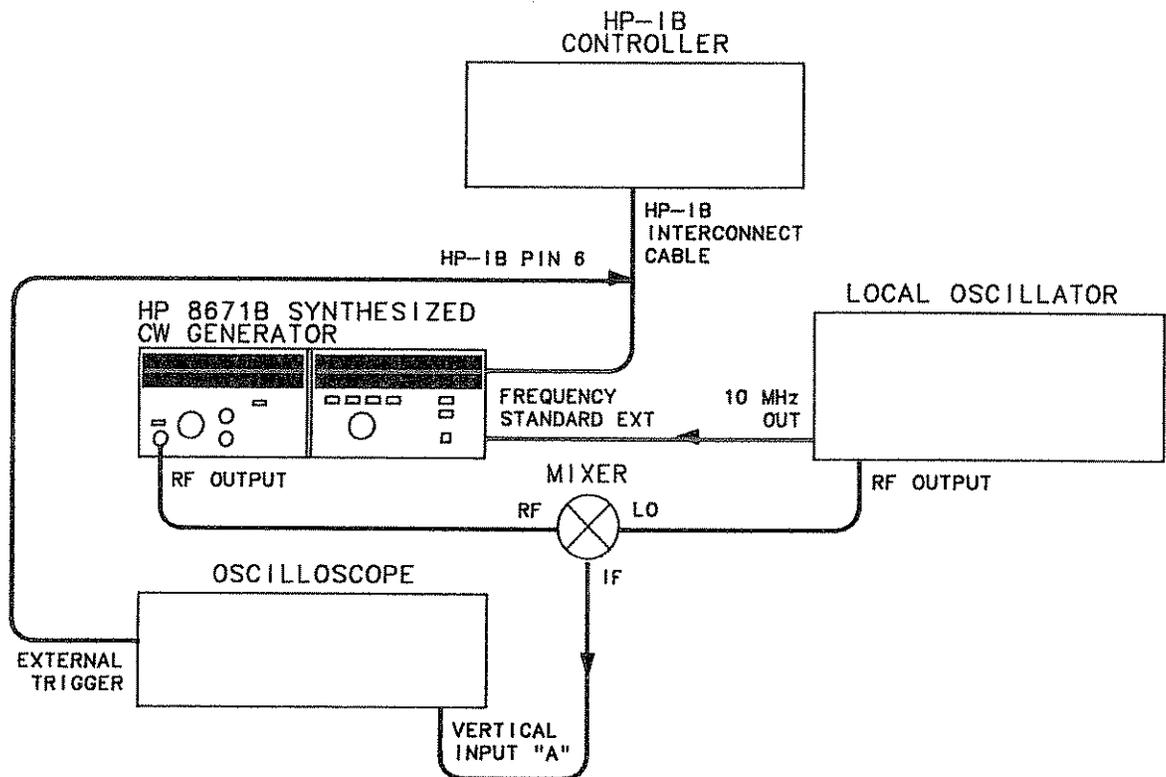

Figure 4-2. Frequency Switching Time Test Setup
1. Set up the equipment as shown in Figure 4-2. The external trigger input of the oscilloscope should be connected to pin 6 of the HP-IB cable. An HP-IB adapter (HP 10834A) can be used to make a permanent adapter for this test. This test may be performed by connecting the external trigger input of the oscilloscope to A2A7TP1. The test results should be identical for both methods of oscilloscope triggering.